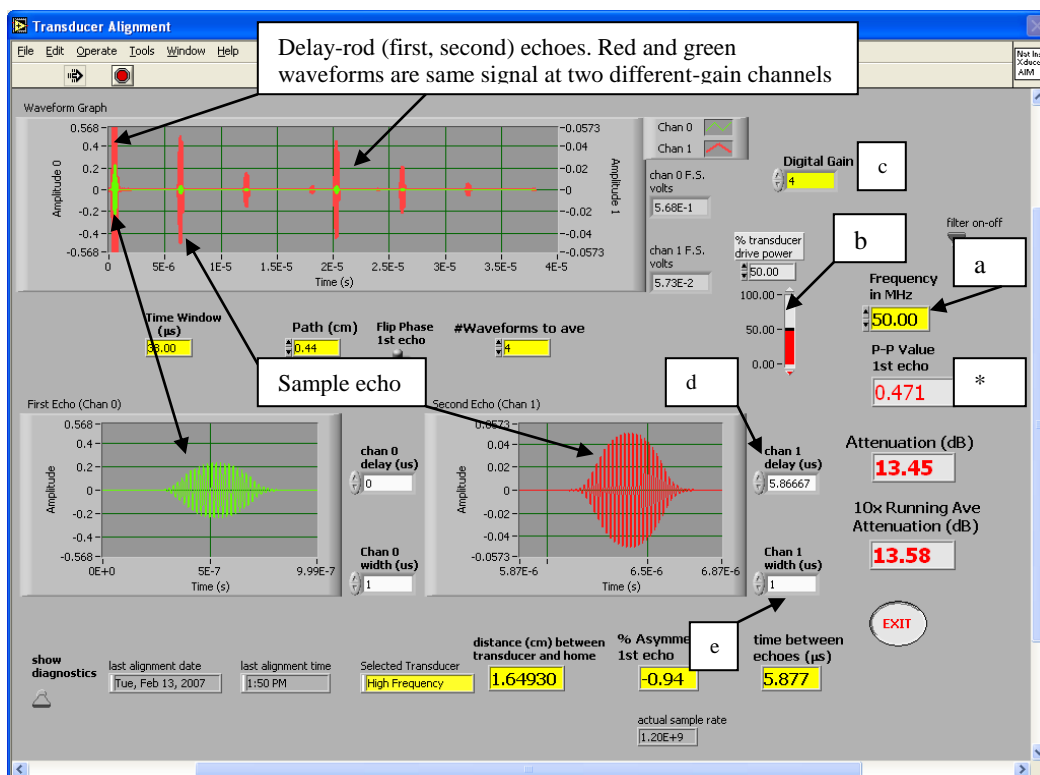

Fig. 3. Coarse alignment settings for HF transducer.
- G. Turn the two fine-alignment screws (see stage photo in the Zeta-APS manual) in order to minimize the “Attenuation (dB)” value as shown on figure 3.